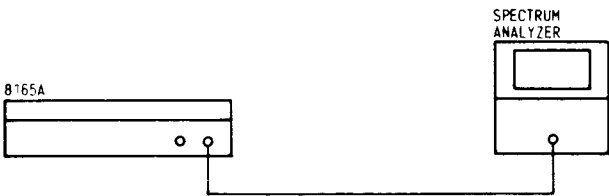

Figure 4-3. Test Setup for Sine Characteristics
- Connect the equipment as shown in Figure 4-3.